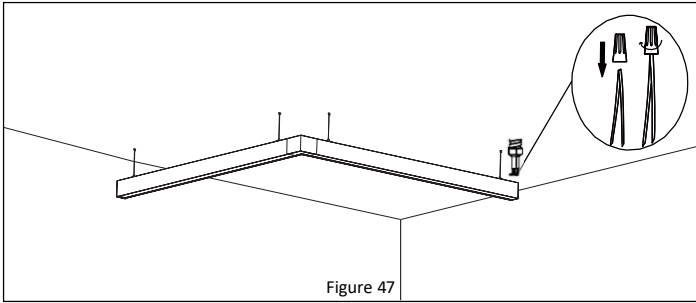

Figure 47
9. Open the cover from 1 end. Make wiring connections according to the **Wiring Diagram**. See **Figure 47**.